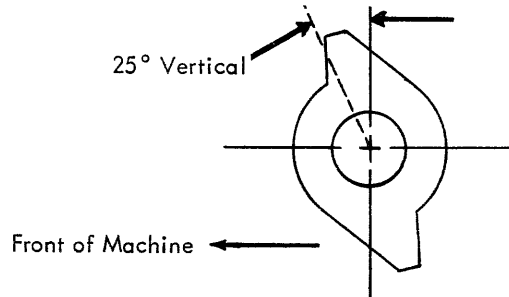

FIGURE 46. Filter Shaft
- Filter Shaft - The filter shaft is set during manufacture at approximately 25° (Fig. 46). This adjustment is not critical. When the relationship of the filter shaft gear has been changed set the filter shaft for proper escapement cam timing. Be sure and check the shift interlock cam adjustment also.